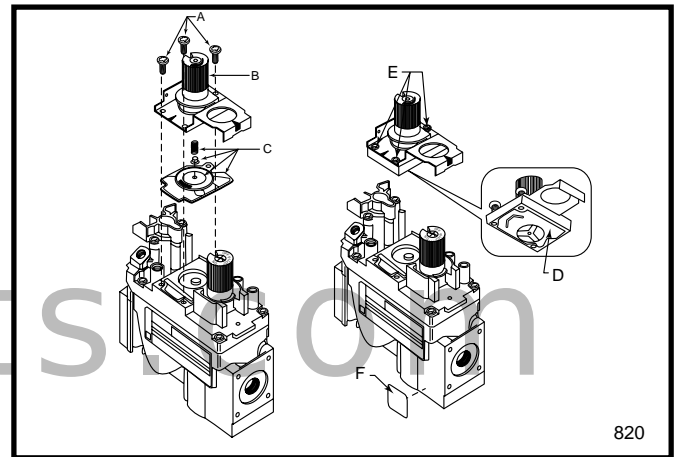

Fig. 47 Nova SIT 820 gas valve.
9. SIT 820 NOVA Gas Control Valve (Fig. 47)
- a. Using a Torx T20 or slotted screwdriver, remove and save the three pressure regulator mounting screws (A), pressure regulator tower (B) and diaphragm (C).
- b. Ensure the rubber gasket (D) is properly positioned and install the new Hi/Lo pressure regulator to the valve using the new screws (E) supplied with the kit. Tighten screws securely. (Reference torque - 25 in.LB)
- c. Install the enclosed identification label (F) to the valve body where it can be easily seen.